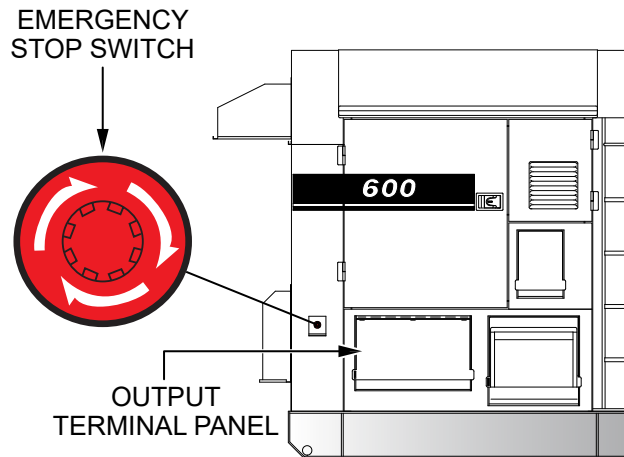

Figure 53. Emergency Stop Switch
1. To stop the engine in the event of an emergency, push the **Emergency Stop switch** (Figure 53). This switch is located on the side of the generator next to the output terminal panel.